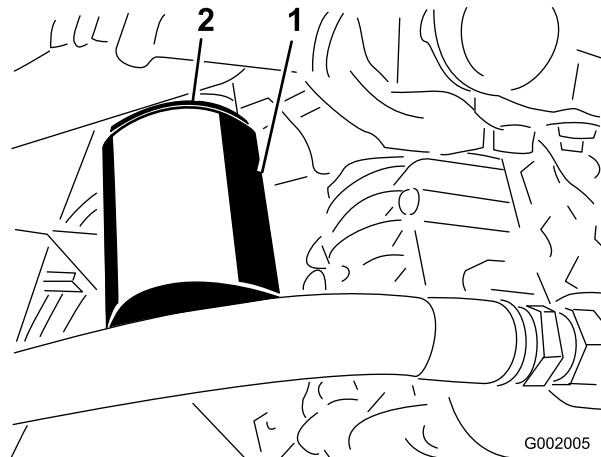

Figure 70
4. Remove the filter (Figure 70).